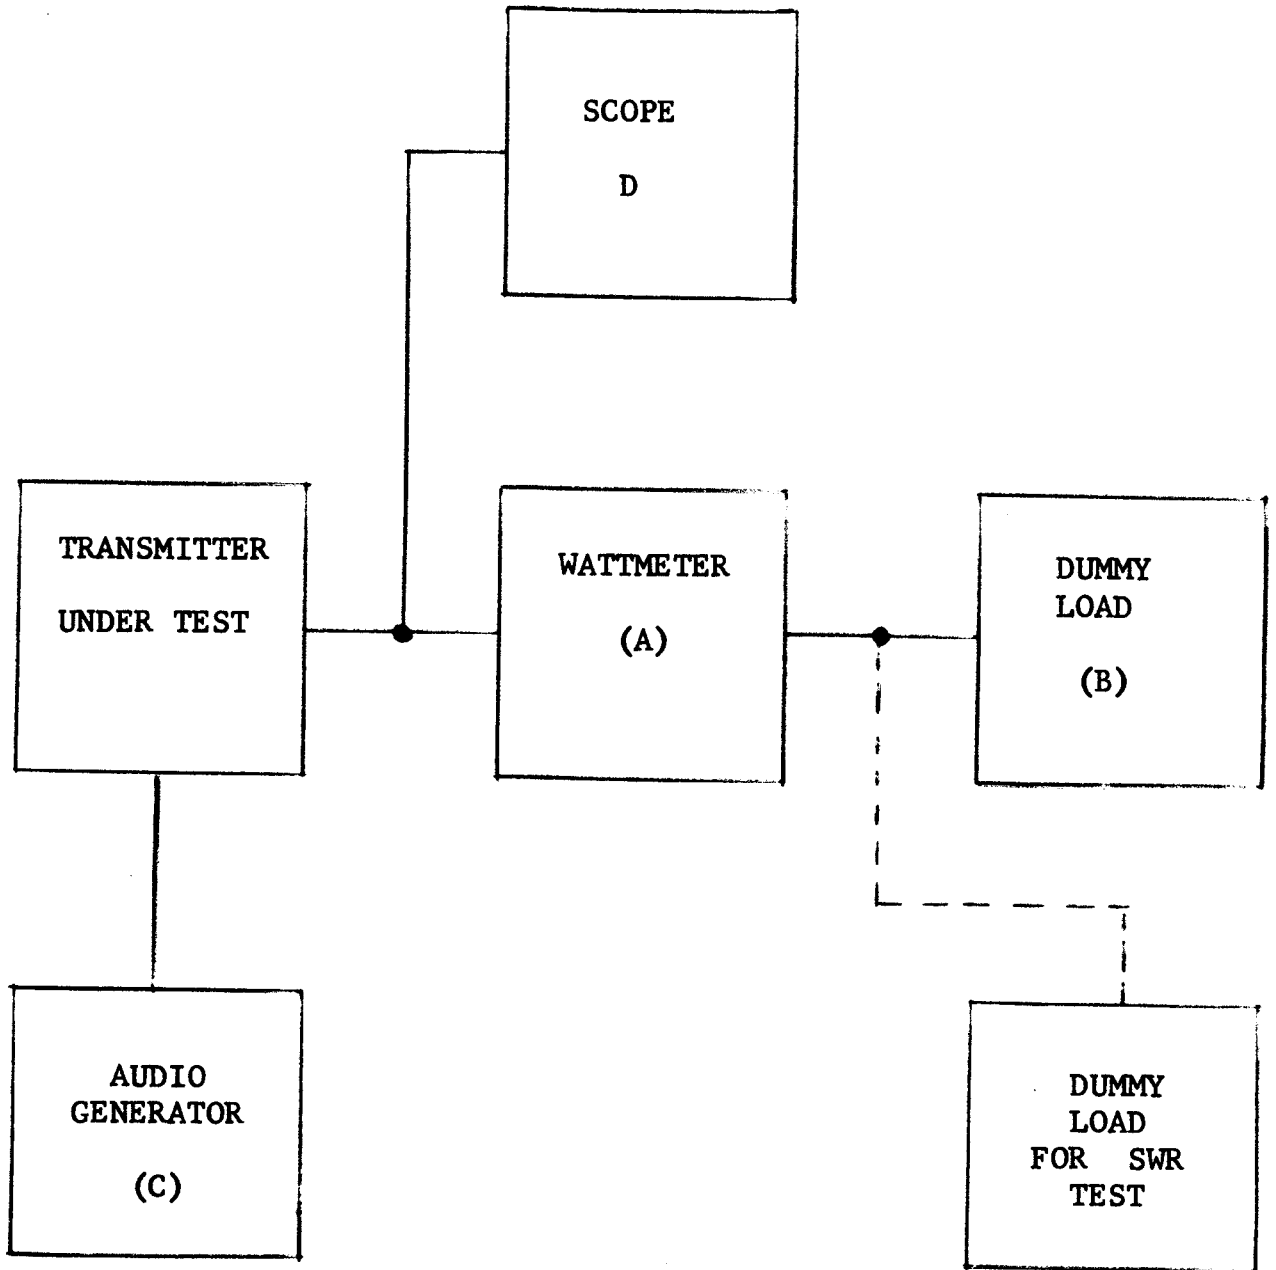

FIGURE 2.1
- a. Connect the equipment as shown in Figure 2.1